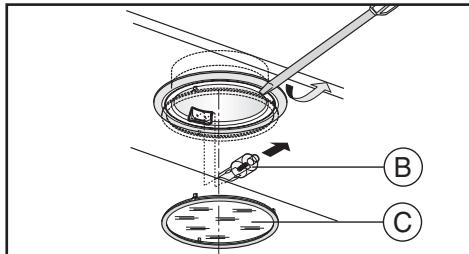

Fig.6A
- **Replacing halogen light bulbs (Fig.6A):**